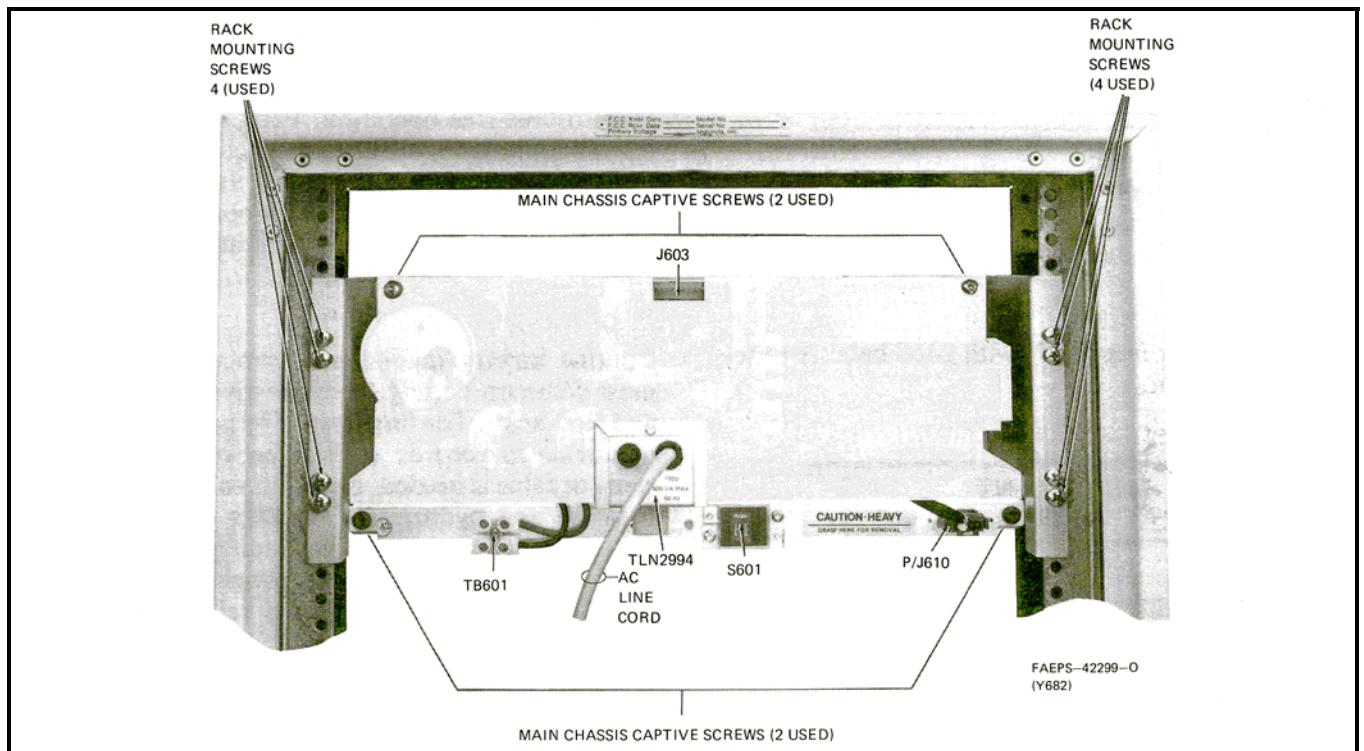

Figure 3. Power Supply Mounting Hardware and Electrical Connections
Step 1. Refer to Figure 3. Disconnect ac plug to the power supply junction box. Disconnect battery cable (if necessary) and dc power cable from the + and - terminals of TB601 on the power supply chassis. Note the color coding of the wires and the polarity of the terminals. If necessary, tag the wires for ease of identification.
Step 2. Refer to Figure 3. Remove main chassis captive screws.